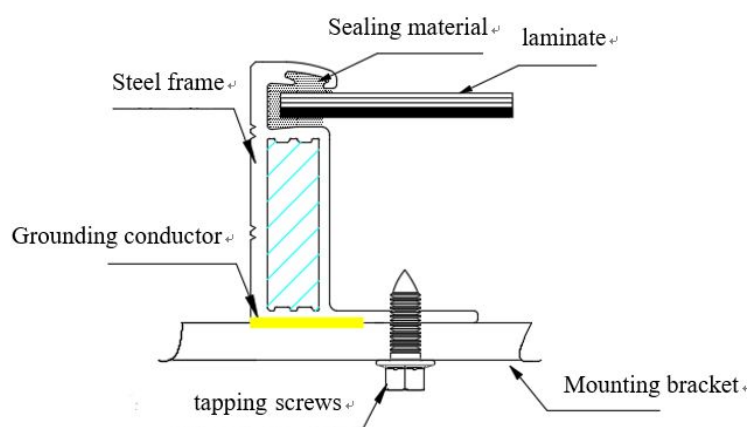

Fig.11.2 ST 4.8 pan head tapping screw grounding
- On a grounding hole with a diameter of $\phi 4$ mm, use a separate grounding wire and related accessories to connect the frame and connect the grounding wire to the ground. M4 x 12mm ground bolts with M4 nuts, star washers and plain washers are recommended for the aluminum frame, M5 pan head screws or ST 4.8 pan head tapping screws are recommended for high-strength alloy steel frames, see fig.11.2, this ensures that the modules are firmly grounded. You can find the corresponding product drawing in module datasheet to know the detailed number, size and position of the grounding holes. The